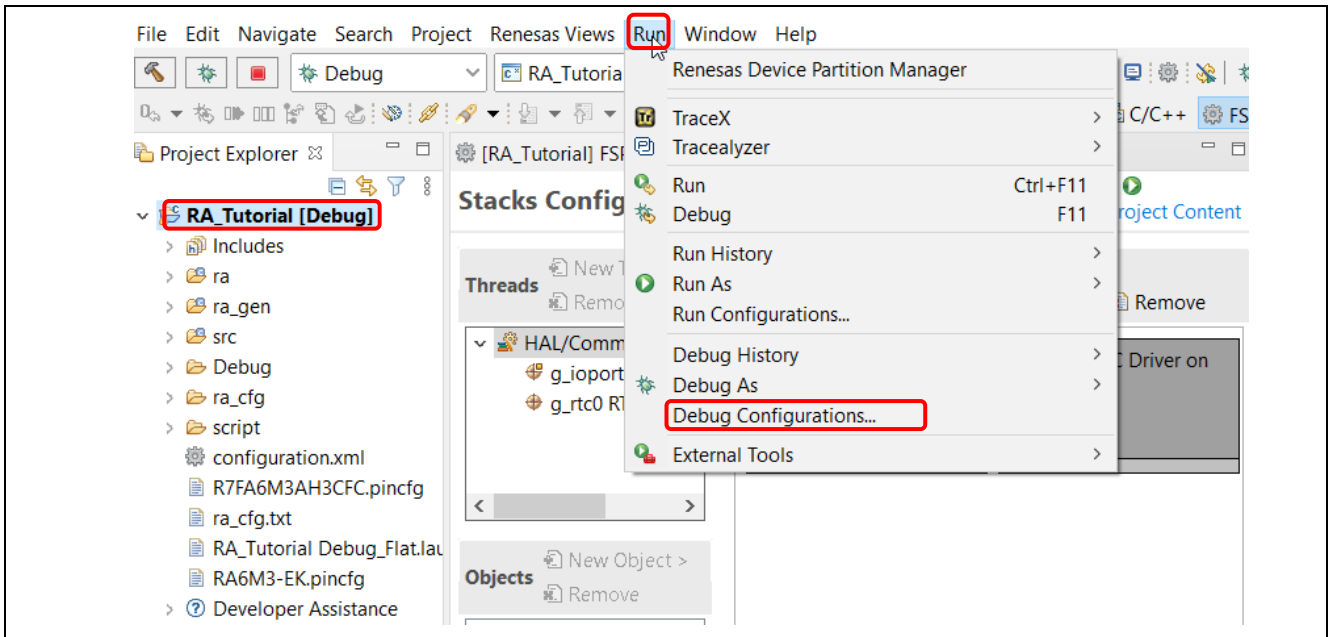

Figure 92. Debug – Opening the Debug Configurations Window
1. Open the **Debug Configuration** window (refer to Figure 92).
2. In the **Debug Configurations** window, select a debug configuration (for example, **RA_Tutorial Debug**) and click the  icon (which duplicates the currently selected launch configuration). A new debug launch configuration (for example, **RA_Tutorial Debug (1)**) is created.